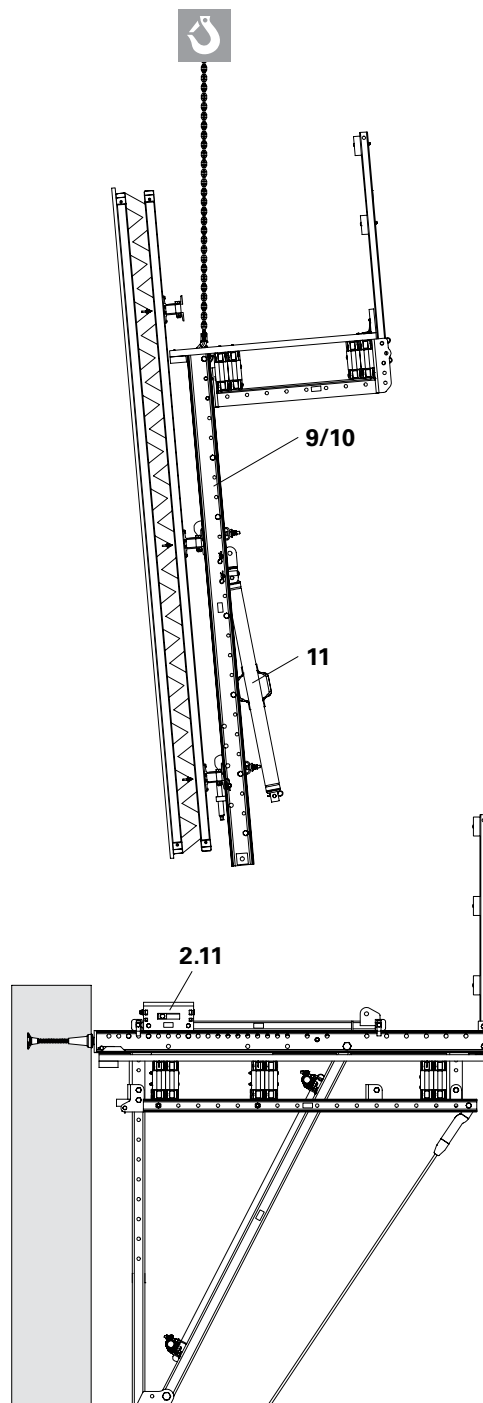

Fig. B7.01
4. Remove fitting pins $\varnothing 21$ from the Heavy-Duty Spindle SLS (11) and spindle in the Heavy-Duty Spindle SLS.
6. Set down formwork unit on designated area and dismantle. (Fig. B7.01)